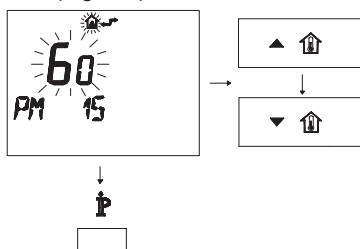

Fig. 8.4
- Modify the programmed SET by pressing buttons **▲** ↑ or **▼** ↓ until a **setting of 60** is displayed, wait for the number programmed to flash (Fig. 8.4).